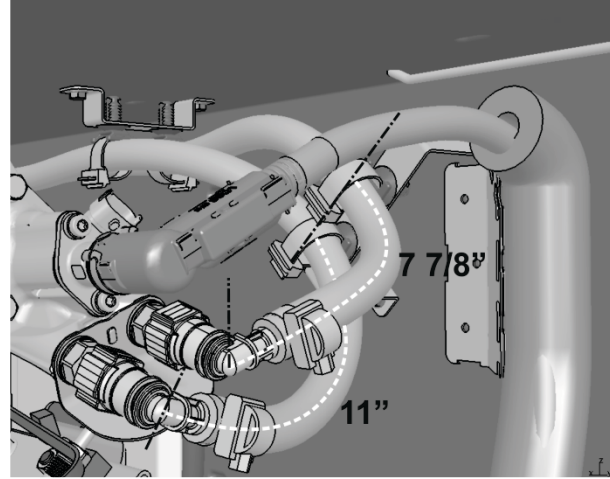

Figure 15
26. Adjust the length of the hoses to dimensions in fig 15.